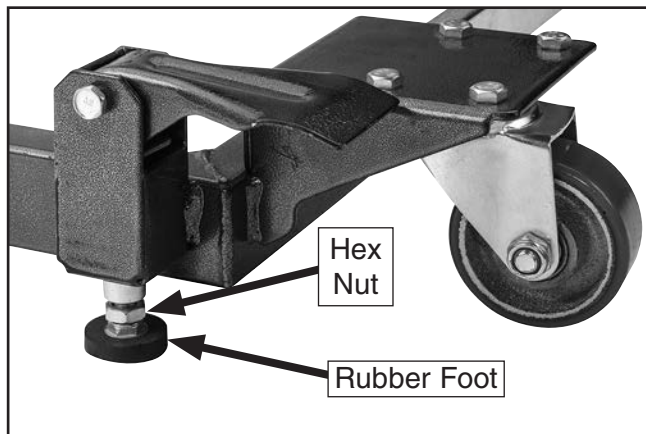

Figure 20. Rubber foot and hex nut adjustment.
The height of the rubber feet can be adjusted to stabilize the machine. To ensure the machine does not move during operations, always make sure the adjustable rubber feet (see **Figure 20**) are firmly touching the ground before operating the machine.
1. Loosen hex nut on each foot to allow foot (see **Figure 20**) to move up or down as needed.